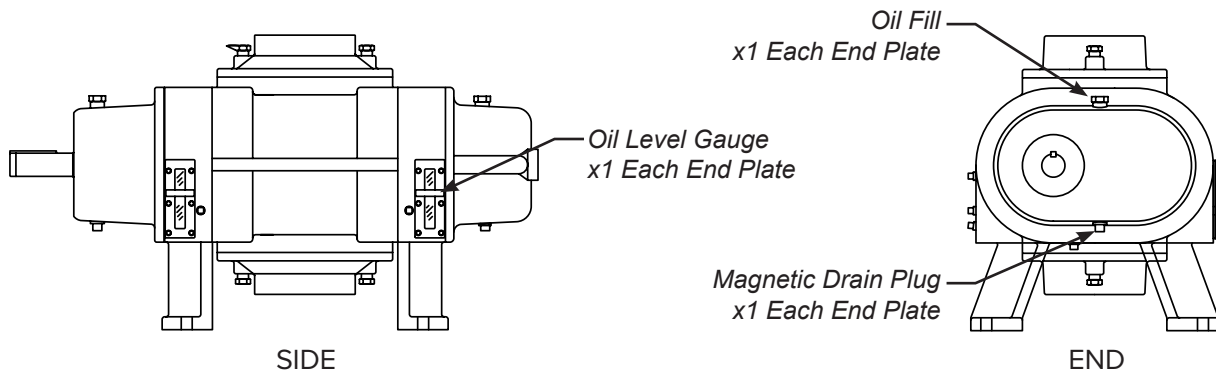

FIGURE 8
2. Pour oil through fill hole slowly until oil appears in oil sight glass. Slowly bring oil up to proper level (see Figure 8).